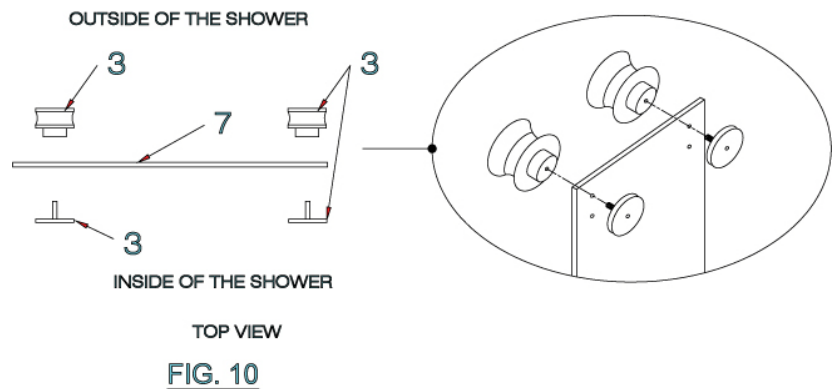

FIG. 10
1. Screw the top rollers (#3) to the door (#7). [SEE FIG.10]